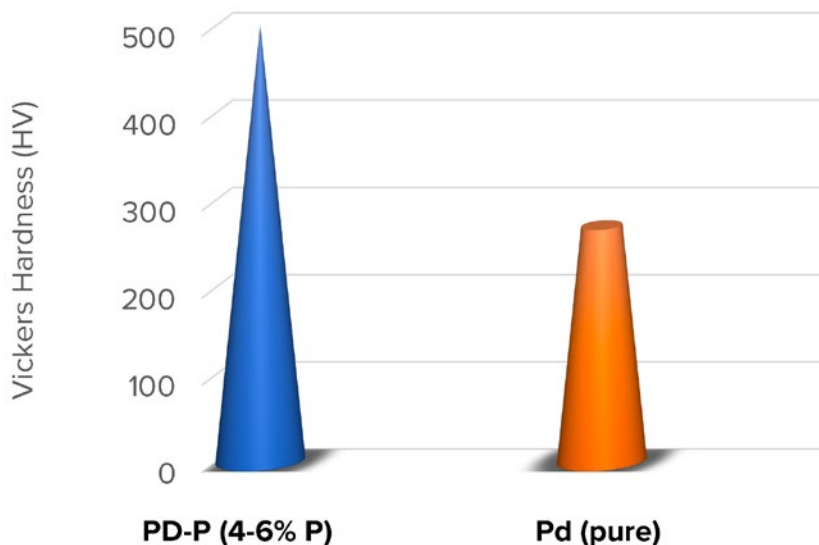

Figure 1: Comparison of hardness of palladium-phosphorus and pure palladium autocatalytic deposits⁶.
- Pure palladium 50% softer than Pd-P (Figure 1)